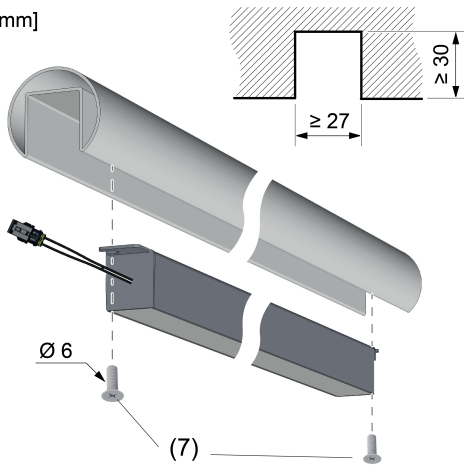

Figure 2: Mounting the LED light insert
- In the mounting base material (e.g. handrail), prepare a groove according to drawing (Figure 2).
- Fasten LED light insert with stainless steel screws (7) in the groove (Figure 2).